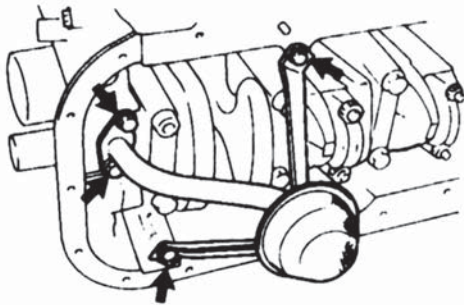

Figure 84
6. Detach oil strainer sub-assembly. See (Figure 84)